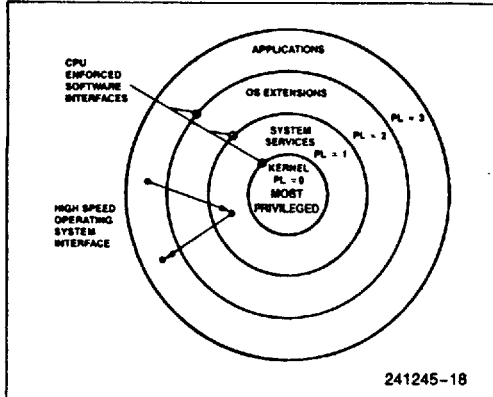

Figure 4.14. Four-Level Hierarchical Protection
The four-level hierarchical privilege system is illustrated in Figure 4-14. It is an extension of the user/supervisor privilege mode commonly used by mini-computers and, in fact, the user/supervisor mode is fully supported by the Intel486 DX Microprocessor paging mechanism. The privilege levels (PL) are numbered 0 through 3. Level 0 is the most privileged or trusted level.